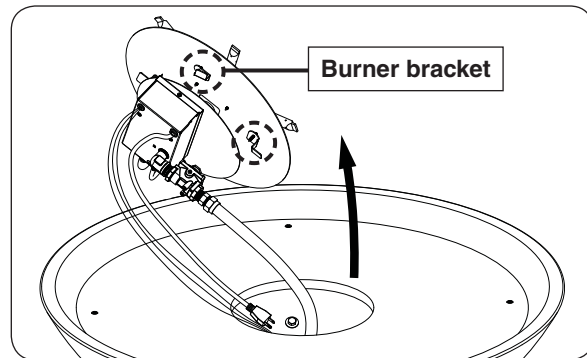

Fig. 45-2 Remove burner assy (if needed)
1. Use a $\frac{5}{16}$ " nut driver to partially unfasten the four screws found on the burner assembly. Then remove the burner and set it off to the side. See Fig. 45-2.